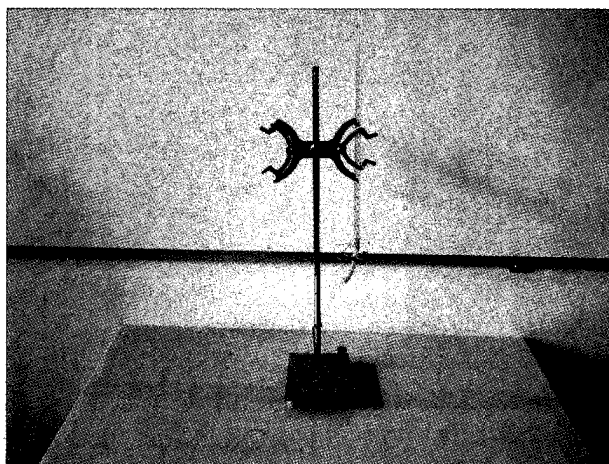

Figure 1. Titration set-up
2. Clamp the burette to an iron stand. See Figure 1.